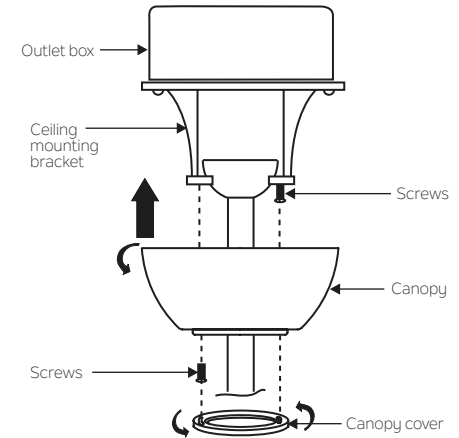

Fig. 13
**Step 2.** Slide the canopy up to the mounting bracket and place one of the key hole slots over the mounting screw on the mounting bracket. Rotate the canopy until the screw head locks in place at the narrow section of the key hole. See figure 13.
**NOTE:** Adjust the canopy screws as necessary until the canopy and canopy cover are snug. (Fig. 13)